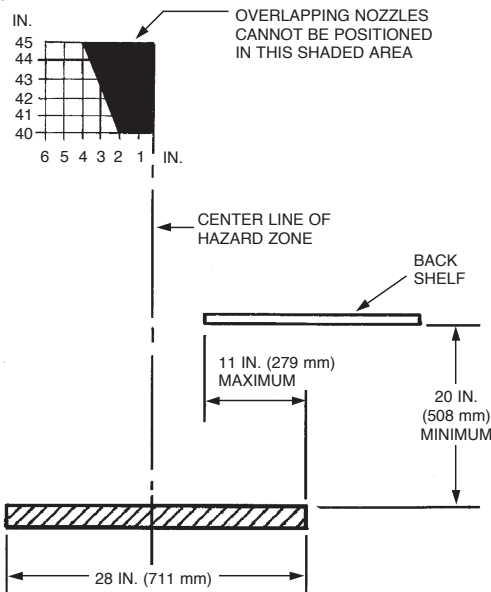

FIGURE 4-132
* See Figure 4-132 for nozzle location
Exception No. 1: Nozzle dimensions for wok protection are measured to bottom of wok. Exception No. 2: When using overlapping appliance nozzles in areas where there is a back shelf, the nozzle cannot be positioned in the shaded area as shown in Figure 4-132.
Also, back shelf must not extend more than 11 in. (279 mm) over the hazard zone and cannot be less than 20 in. (508 mm) above the hazard zone. See Figure 4-132.